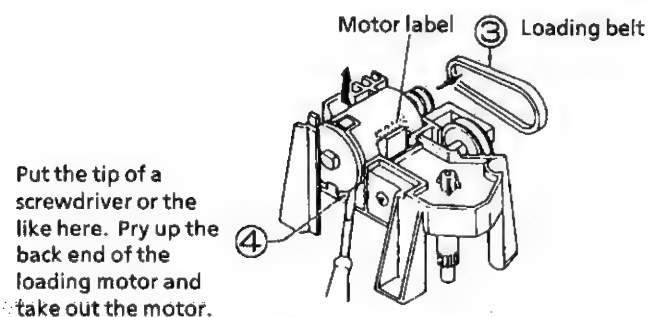

Figure 1-70.
3. Take out the loading belt ③.
4. Pry up the back end of the loading motor with a screw driver or the like as in Figure 1-70 and take out the motor.